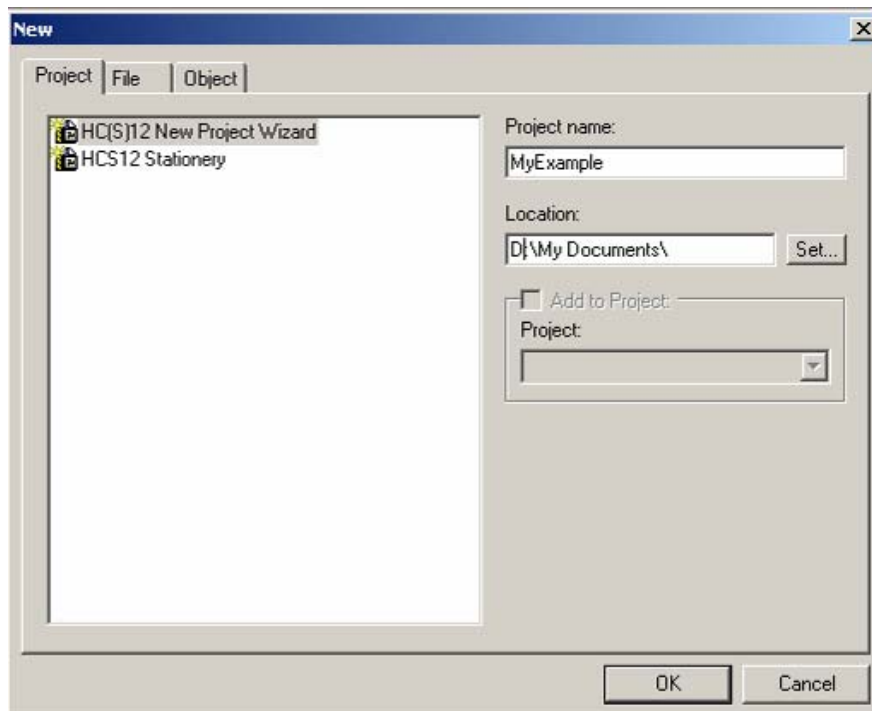

Figure 8. CodeWarrior New Project Window
- 2.2 From the IDE main menu bar, select: File > New; a new window will appear as seen in Figure 8.